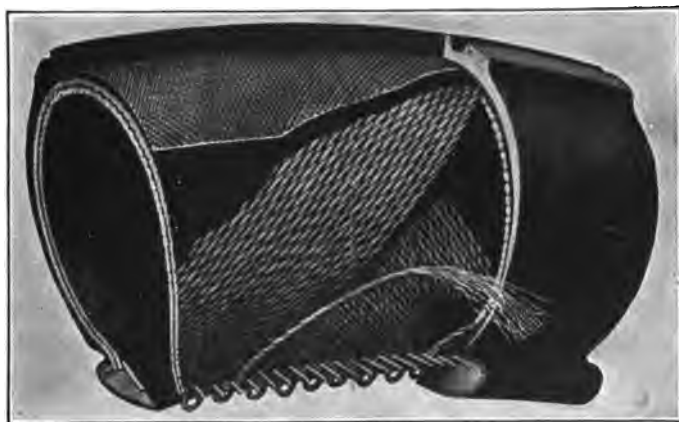

Fig. 99. Section of Goodrich Silvertown Cord Tire, Showing Inner Construction
*Cord Tires.* The real improvement of value, however, is the cord tire. One form of this is shown in partial section in Fig. 99. This shows graphically that the difference between this tire and other forms is that the 4 to 6 or more layers of fabric have been replaced by two layers of diagonally woven cord. This cord is continuous, rubber impregnated, rubber covered, and through its